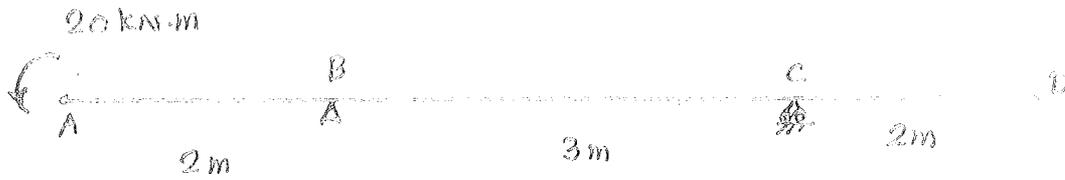

Fig. 1
11. (i) Derive the complementary virtual work for Bending Moment. (6)
- (ii) Calculate the deflection at 'A' for the beam shown in Fig. 1. (10)